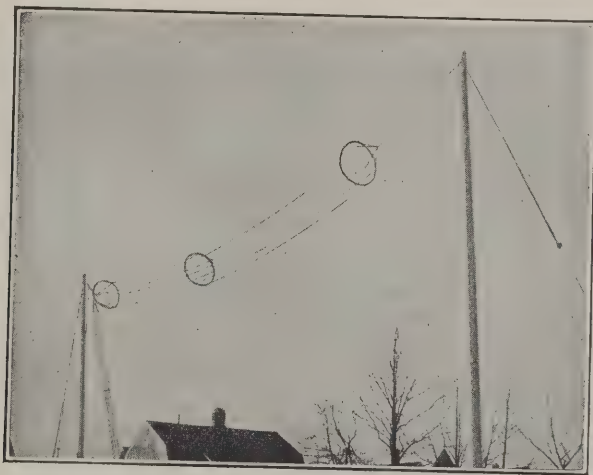

Fig. 43.—Cage type antenna with cage lead-in.
(3) *Cage type*. One type is shown in Figure 43. The cage antenna consists of a number of component wires spaced equidistant, held in position by hoop spreaders (insulated rings) forming a cylinder. The several antenna wires are brought together, or both ends may be closed in, with the lead-in conductor attached to either end, depending upon the installation. The diameter of the spacer ring is determined by the size of the cage desired. The spacing of wires in a cage form is useful in obtaining a maximum of capacitance in a limited space.